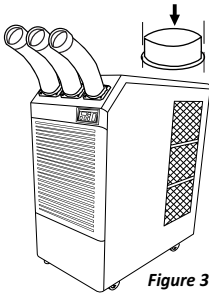

Figure 30
3. Use screws (enclosed inside of box with the top fan exhaust flange) to install the top fan exhaust flange on air conditioner as shown in Figure 30.